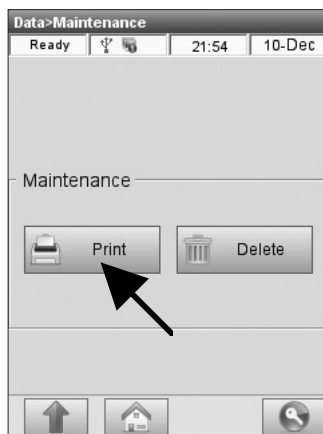

Fig. 6-28 Maintenance Report
3. Press  **Print** to print the maintenance report (Fig. 6-28).